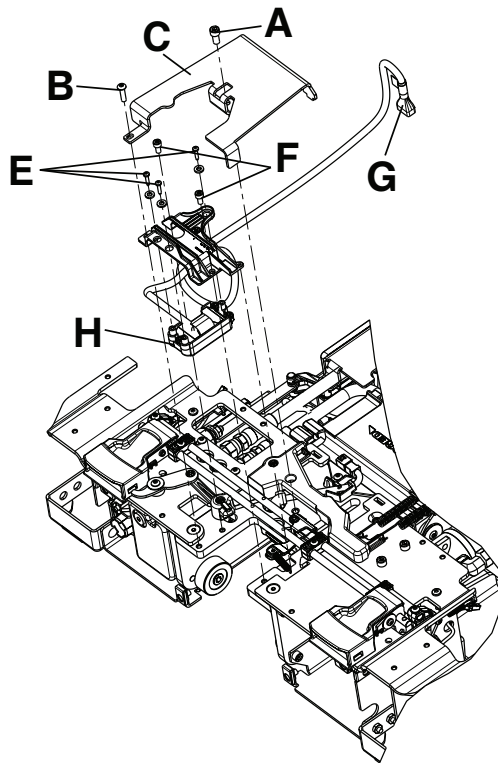

Figure 21 – Inductive coil assembly
2. Using a 5/32" hex wrench, remove the screw (A) that secures the inductive coil assembly to the frame (Figure 21).
3. Using a 3/16" hex wrench, remove the screw (B) that secures the inductive coil assembly to the frame (Figure 21).
4. Remove the cover (C) (Figure 21). Save for reinstallation.
6. Using a T25 Torx driver, remove the screws (E) that secure the charge bracket (Figure 21).
7. Using a 5/32" hex wrench, remove the screw (F) that secures the charge bracket (Figure 21).
9. Unplug the cable (G) from the trolley control board, and remove the inductive coil (H) (Figure 21). Discard the inductive coil.